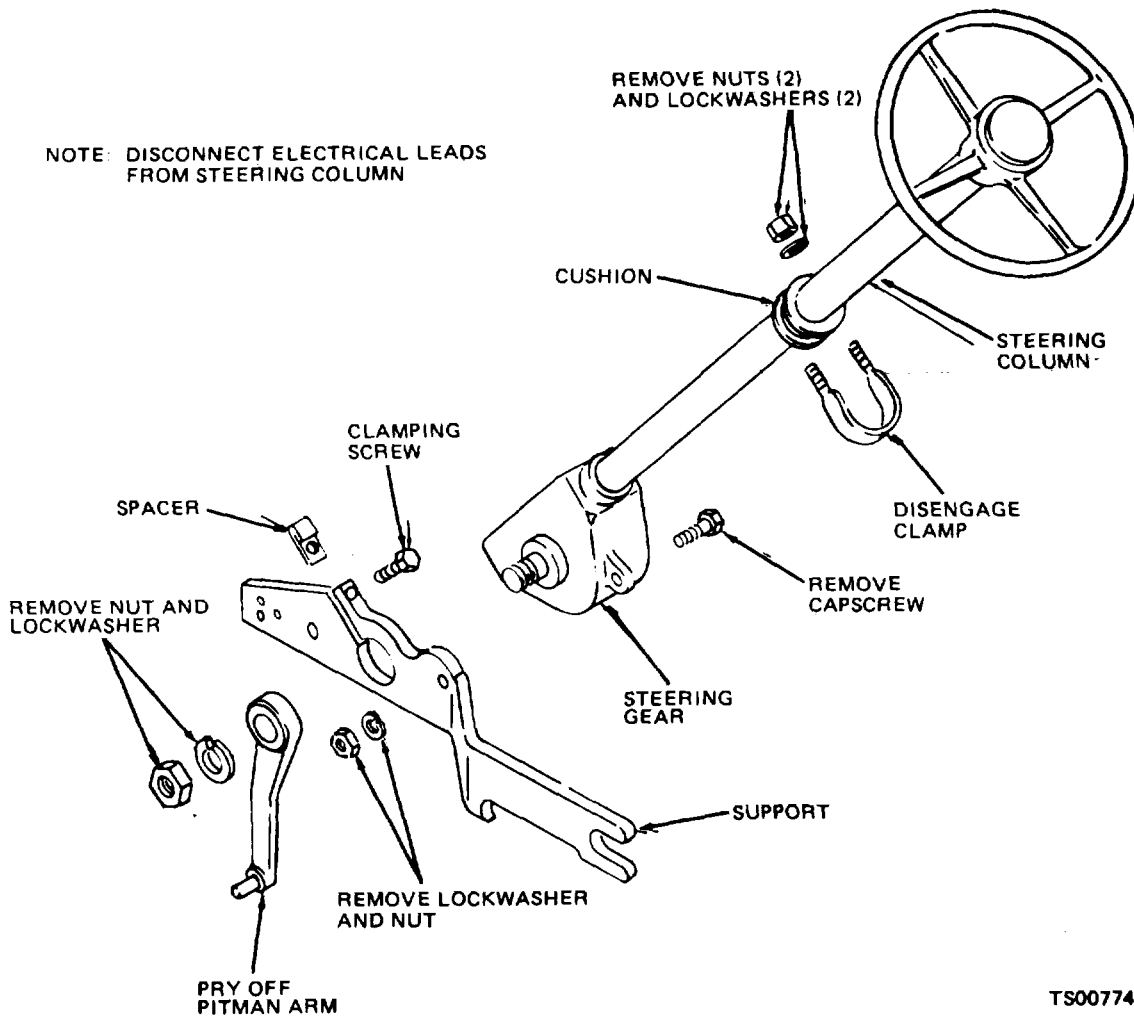

Figure 2-8. Steering Gear, Removal and Installation.
(1) Remove the instrument panel (TM 10-3930-632-12).
(2) Remove the transmission control lever from the steering column (para 14-2).
(3) Disconnect the drag link from the pitman arm of the steering gear (TM 10-3930-632-12). Swing the drag link free of the pitman arm.
(4) Refer to figure 2-8 and remove steering gear.
- (1) Refer to figure 2-8 and install the steering gear.
- (2) Adjust the steering gear as directed in subparagraph c below.
- (3) Install and adjust the drag link (TM 10-3930-632-12).
- (4) Install the transmission control lever on the steering gear (para 14-2).
- (5) Install the instrument panel (TM 10-3930-632-12).